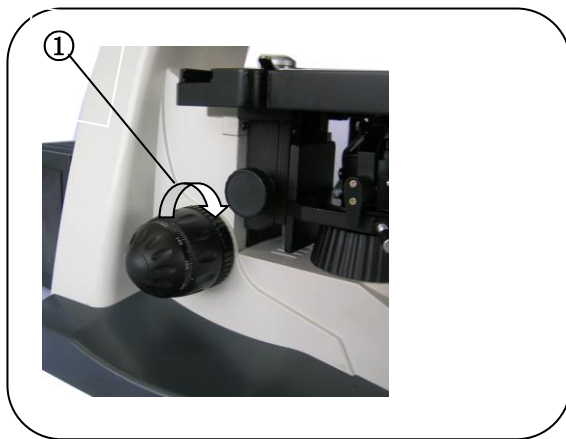

Fig. 4.
4. Adjusting tension of coarse focusing knob (Fig. 4.)